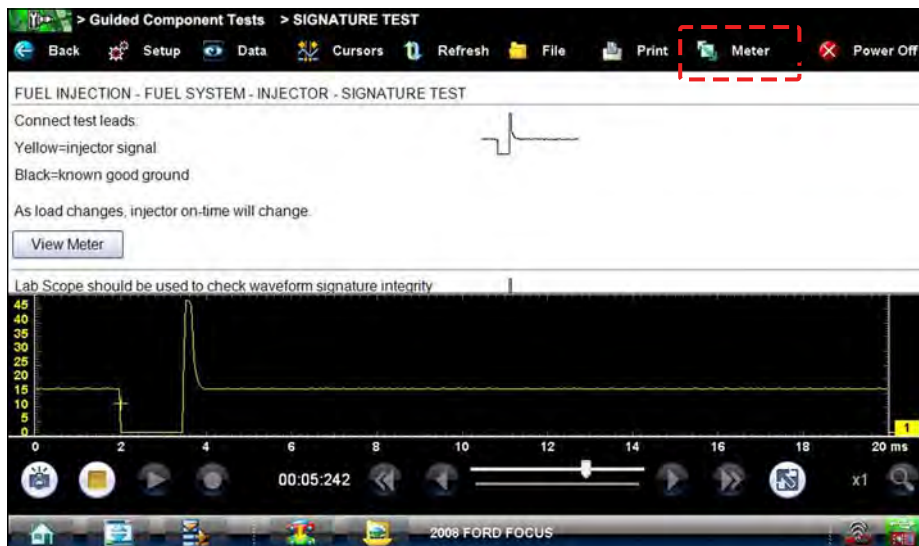

Figure 6-6 Sample view meter screen
- **View Meter**—opens a live meter set up to perform the test in the lower portion of the screen (Figure 6-6). Once the meter view is open, the Guided Component Test toolbar at the top of the screen is replaced by the Scope Multimeter toolbar, which allows you to make adjustments to the settings. See “Scope Multimeter Toolbar” on page 84 for details.
A Meter icon, which is only available in the Guided Component Test view meter mode, appears on the upper toolbar (Figure 6-6).
1. With View Meter active (Figure 6-6), select the toolbar **Meter** icon once and the meter expands to fill the entire screen.
3. Select the **Meter** icon a third time to close the window and return to the standard view as shown in Figure 6-6.